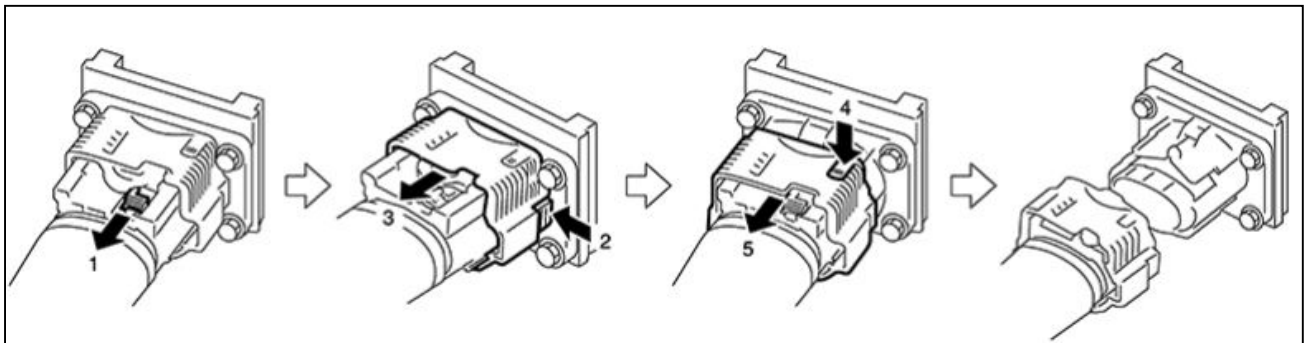

Figure 4
- b. Disconnect the Li-Ion battery high voltage harness connector (B) (see Figure 4).